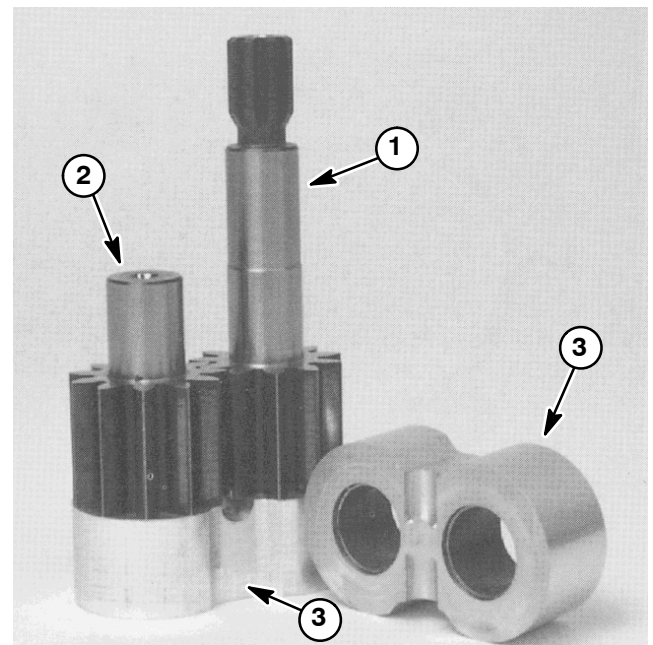

Figure 68
3. Inspect drive gear, idler gear and bearing blocks (Fig. 68) for the following: